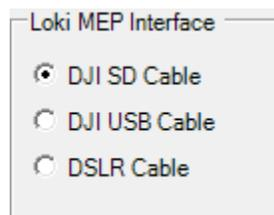

Figure 13 - Loki MEP Interface
10. Select which method of MEP Interface you are using in the Loki MEP Interface section (Figure 13). If you are using an AirGon provided USB cable, select *DJI SD Cable*. If you are using a regular USB cable to get the Log files from a DJI Drone, select *DJI USB Cable*. If you are using a DSLR camera on a custom drone configuration, select *DSLR Cable*.